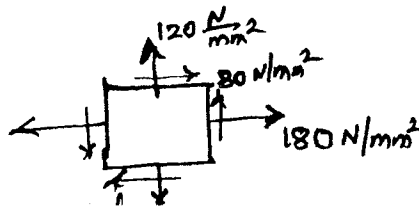

Fig.Q.3(c)
- c. The state of stress at a point in a strained material is shown in Fig.Q.3(c). Determine: